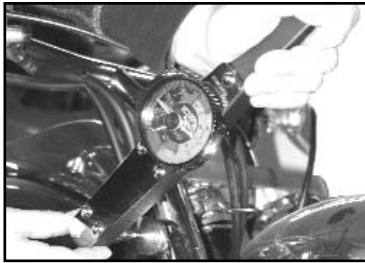

Figure 2
1. Push the large Upper Cap Bushing into the large Upper Spool so the **thick side** of the spool is near the head of the Upper Cap Bushing. **Figure 2**